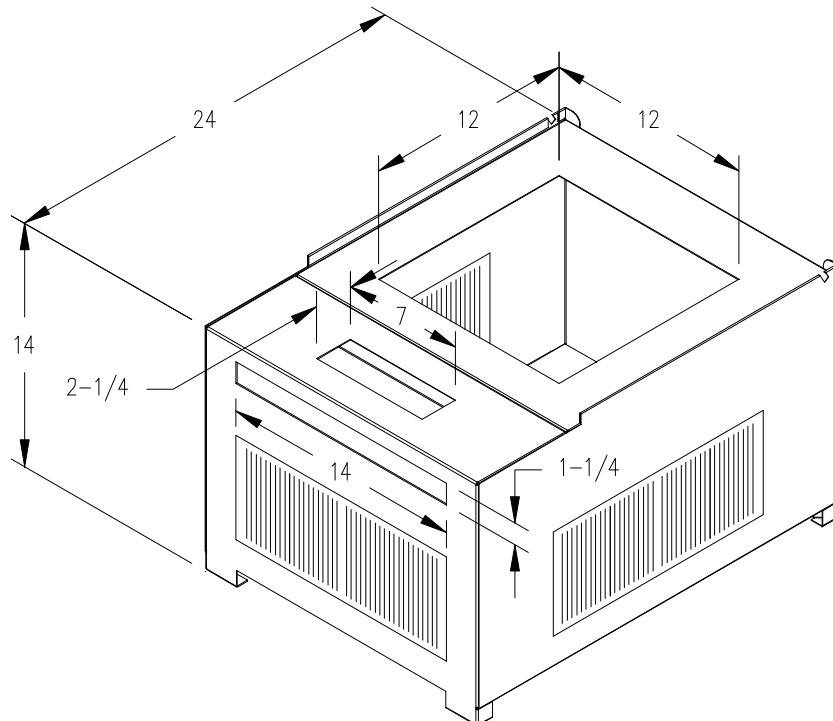

Figure 1C.
4. Model CMA4 furnace may be installed on a combustible floor when utilizing either the No. 70 counterflow floor base or CE111S coil cabinet for below the floor duct systems, or the cottage base for floor level air distribution. See Figure 1A for description of Combustible Floor Base and Figure 1C for Cottage Base.
The 01COT BASE cottage base (Figure 1C) is required for a freestanding cottage base installation. The cottage base allows the two sides and rear to have an 8" x 12" register installed. **IMPORTANT: All joints and seams of supply ducts must be sealed with a sealing method suitable to the application conditions and temperatures (I.E. High temperature silicone and/or aluminum tape).** Refer to assembly and installation instructions included with cottage base for additional information.